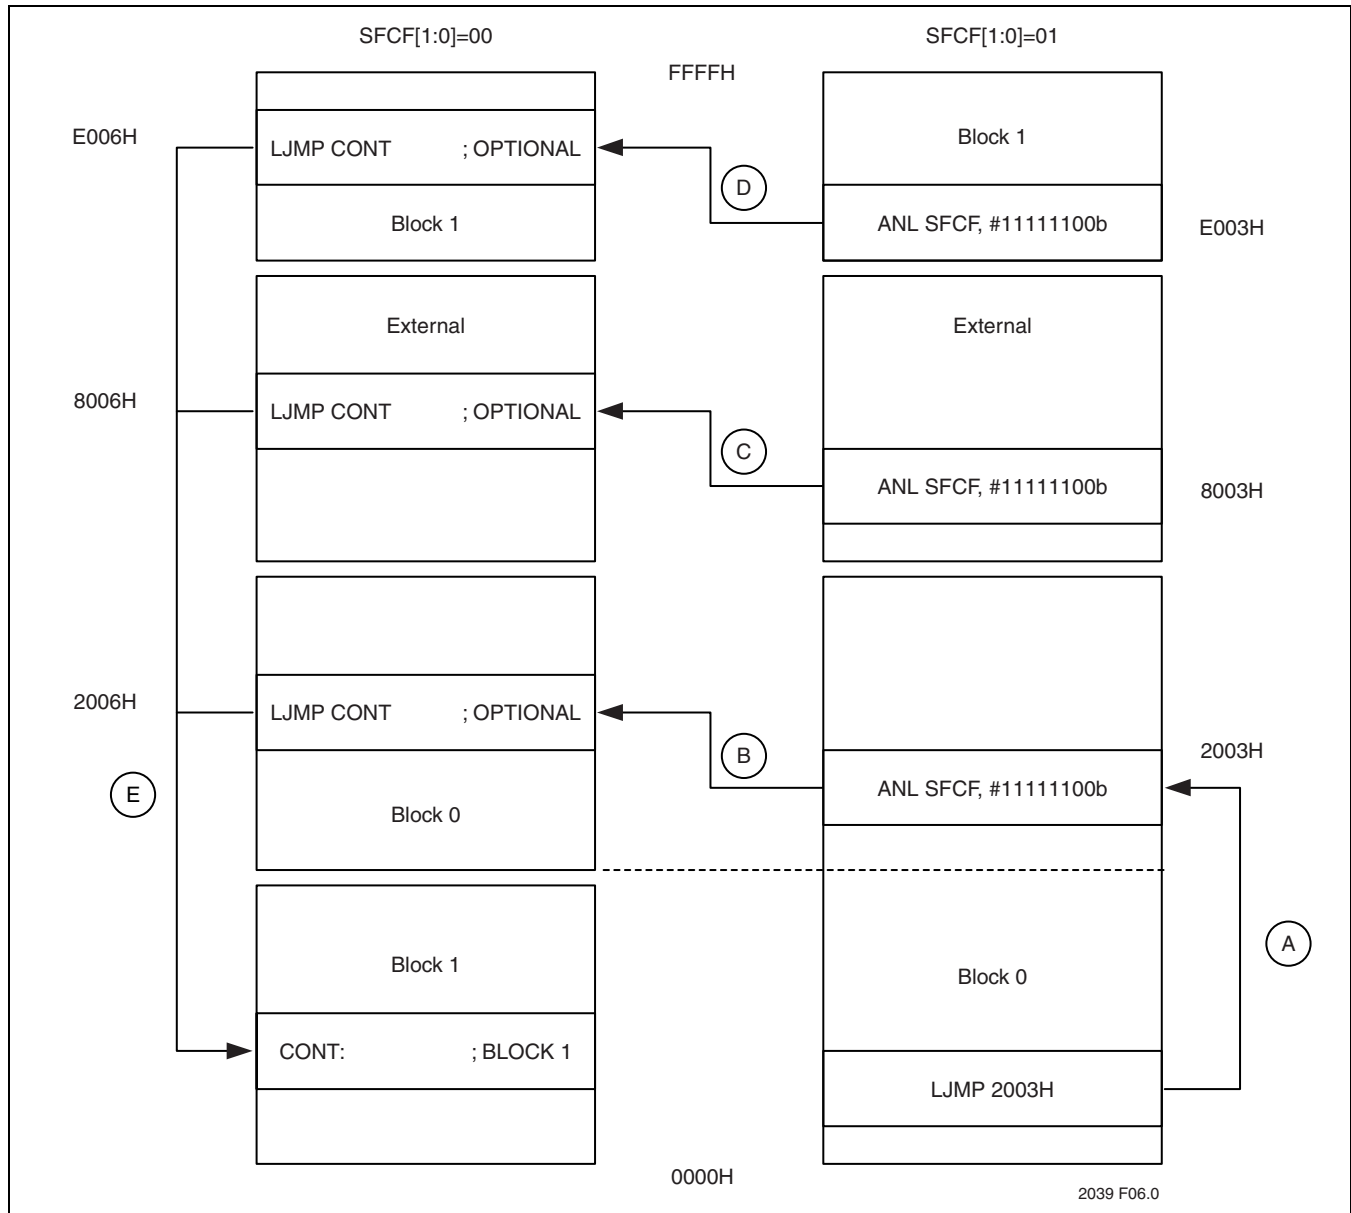

FIGURE 2-6: Switching On Block 1 on the SST89E/V58RDx
Figure 2-6 demonstrates different ways that Block 1 may be switched on. To switch on Block 1, a jump instruction (A) must be used if code is executing below address 2000H to jump to an instruction address above 2000H. Then the BSEL and SWR bits may be safely cleared to switch (B) Block 1 on. The subsequent instruction (E) may optionally jump back to Block 1 that is now visible.